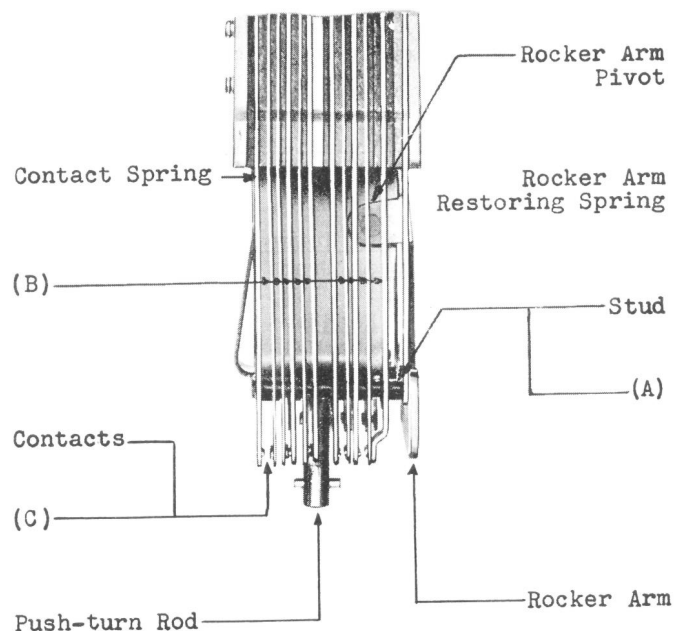

Fig. 6 - No. 580A Key - Top View
2.11 Spring and Stud Clearance - Fig. 6 (A): The spring studs shall clear the springs through which they pass, in all positions of the key. Gauge by eye.
2.12 Separation Between Springs - Fig. 6 (B): There shall be a clearance between adjacent springs whether in the operated or normal positions of the key of Min. .008" Gauge by eye.
**2.14 Contact Separation - Fig. 6 (C):**